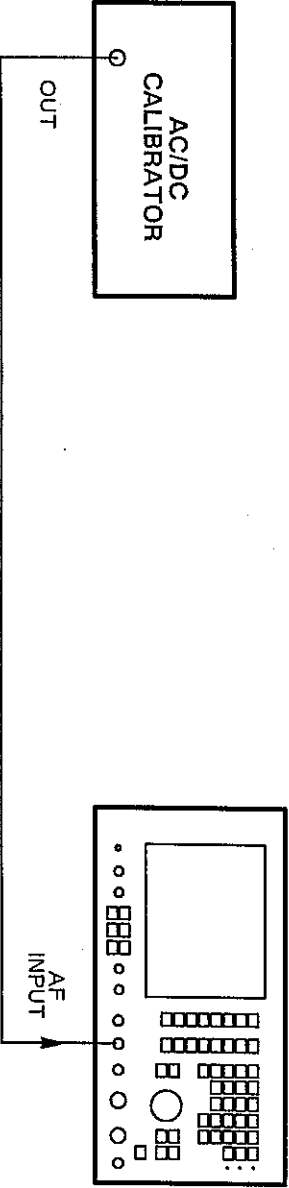

Fig. 6-1 Test equipment connections for oscilloscope AF level
- (1) Connect the AC/DC calibrator to the AF INPUT socket. See Fig. 6-1.
- (2) On the 2955A, set the MODE to RECEIVER TEST, SCOPE/BAR to SCOPE, AC DC to DC, FILTER to 50 kHz LOW PASS and DIST'N, S/N and SINAD to off.
- (3) On the 2955A, use the vertical POSITION control to move the trace to the bottom dotted graticule line.
- (4) On the 2955A, set the VERT scale range to 2 V/div.